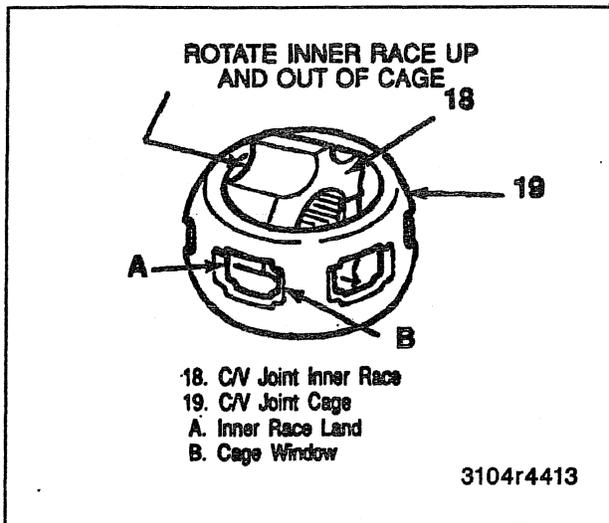

Figure 25—Separating Inner Race and Cage
5. Rotate the inner race (16) 90 degrees to the center line of the cage (17) with the lands of the inner race aligned with the windows of the cage (Figure 25).
6. Pivot the inner race (16) into the cage (17) window and remove the inner race.
1. Inner race (16) into the cage (17) (Figure 25).
- A. Rotate into place. Cage with inner race to the outer race (Figure 25).